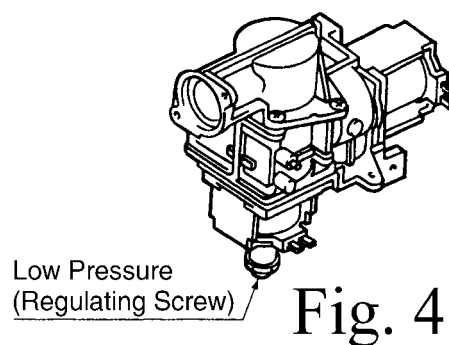

Fig. 4
- 11) Adjust the regulator screw on the modulating valve as required to the pressure below. (fig 4)